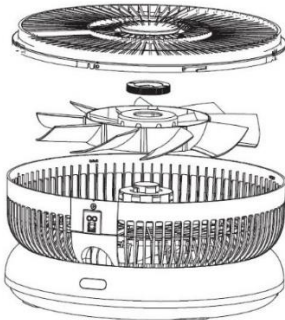

Figure 11
- The front grille and fan blade could be dismantle for cleaning purpose (Figure 11), please do not wash it directly under the tap.